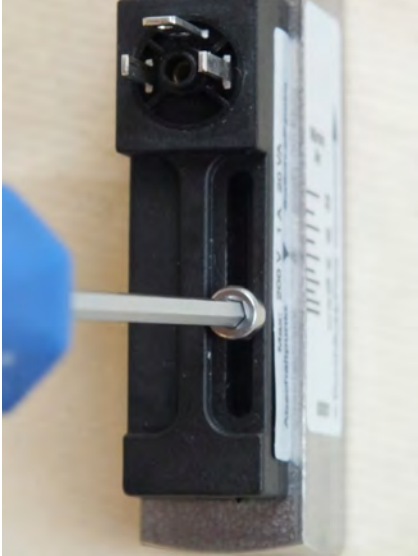

Fig. 32: Loosen the set screw
1. ➔ Loosen the set screw of the switch contact (Fig. 32) using a Hex screwdriver.
3. ➔ Re-tighten the set screw of the switch contact (Fig. 32) using a Hex screwdriver. When doing so, observe the correct tightening torque.